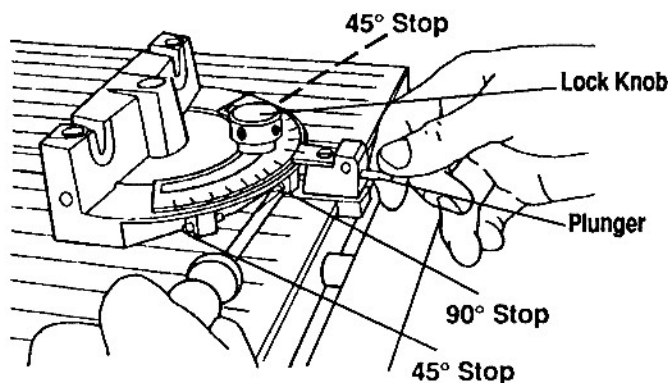
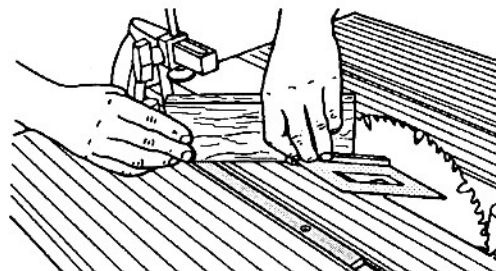

Fig. B-41
Fig. B-45
40. Use a medium screwdriver to back out the 90° stop screw 2 to 3 turns, as shown in Fig. B-41.
45. See Fig. B-41. Loosen the lock knob and pull out the plunger. Then, at the same time, rotate the miter gauge and push in the plunger until it hits the left 45° stop (there is one on each side of the 90° stop).
49. To adjust the other 45° stop, see Fig. B-41, and repeat Steps 45–48. Fig. B-45 shows this adjustment.